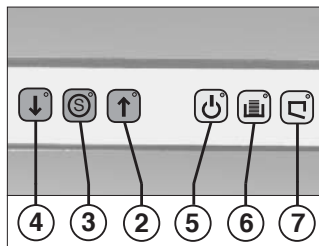

fig. 2
- 2 = „Cutting system forward“ pushbutton (fig. 2)**
- 3 = „Cutting system stop“ pushbutton (fig. 2)**
- 4 = „Cutting system reverse“ pushbutton (fig. 2)**
- 5 = Pilot lamp „ready“ (fig. 2)**
- 6 = Pilot lamp „receptacle full“ (fig. 2)**
To start, switch on the unit by operating the rocker switch (1) (fig. 1). The pilot lamp marked „ready for operation“ (5), as well as the red stop-button „S“ (3) (fig. 2) will light to indicate that the machine is ready for operation.
- When the receptacle is full, the machine turns off automatically and a horn sounds. The pilot lamp (6) (fig. 2) lights up. Empty the receptacle as follows:
- Open door. The pilot lamp (7) (fig. 2) lights up.
- The horn stops. The pilot lamp (6) goes off.
- Place empty sack into receptacle, push in the receptacle and close door. The pilot lamp (7) goes off.
- The pilot lamp of the stop-button „S“ (3) (fig. 2) will light.
- Briefly operate the pushbutton switch for reverse (4) (fig. 2).